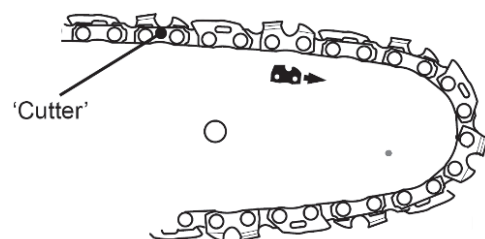

Fig. 6
4. Spread the saw chain (14) out with the cutting edges of the chain pointing in the direction of rotation.
Slide the saw chain (14) into the groove around the guide bar (13). Ensure saw chain (14) is installed in correct direction of rotation. (Fig.6)